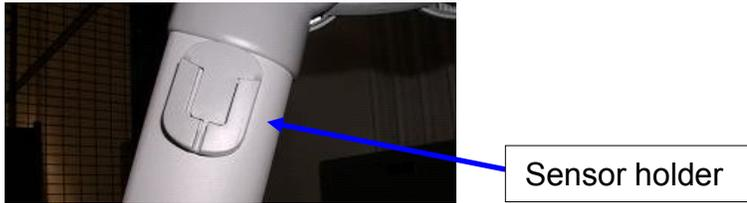

Figure 43
6. Attach the sensor holder to the articulating arm by peeling off the tab and exposing the sticky tape (see Figure 43 on page 26).